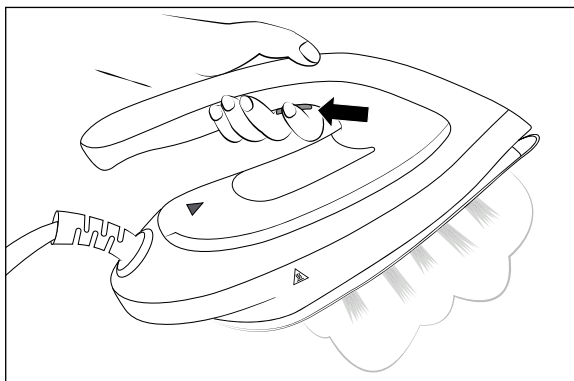

Fig. 5
- 1) Allow the steam iron ❶ to heat up until the **MAX** ☞ button ❶ or **ECO** ☞ button ❷ lights up continuously.
- 2) Take the steam iron ❶ off its base ❶, and press the steam boost button ☞ ❷ (see Fig. 5) while ironing. Steam escapes from the steam outlet openings in the soleplate ❹.